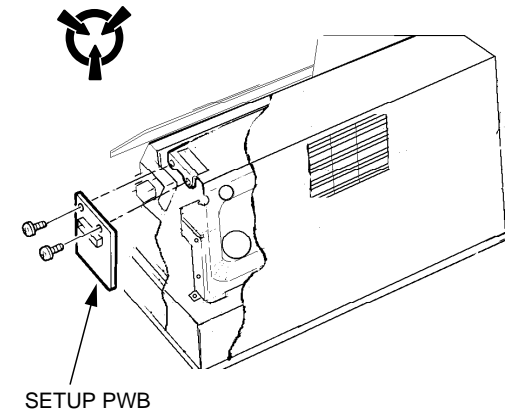

Figure 1. Setup PWB
3. Remove the two screws retaining the setup PWB to the shield and disconnect from the driver PWB (figure 1).